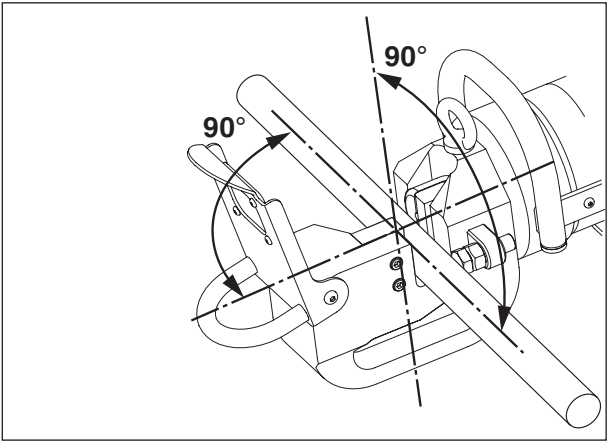

Figure 9, Positioning Material in the Cutting Head
Position the material to be cut between the cutter blades, so that it is perpendicular to the piston axis, as shown in Figure 9. This will provide the best quality cut while placing the least amount of load on the cutter.
4. Place the material to be cut between the fixed and moving blades. Be sure that it is perpendicular to the piston axis, as shown in Figure 9. Refer to instructions in Section 8.5 for additional information.